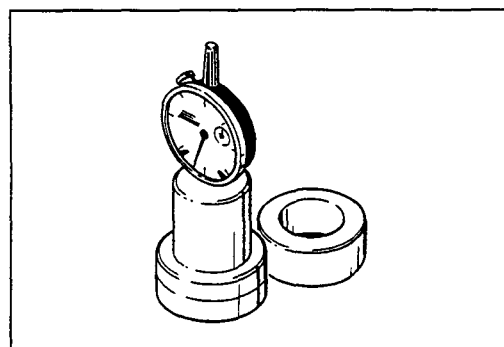

Figure 27
6. Rotate the gauge a few revolutions, **in one direction only**, while applying medium to heavy hand pressure in order to seat the rollers correctly and to drive out surplus lubricant from between the bearing surfaces. Record the dial gauge reading. This reading is known as the 'bearing deviation'. (Fig. 27).